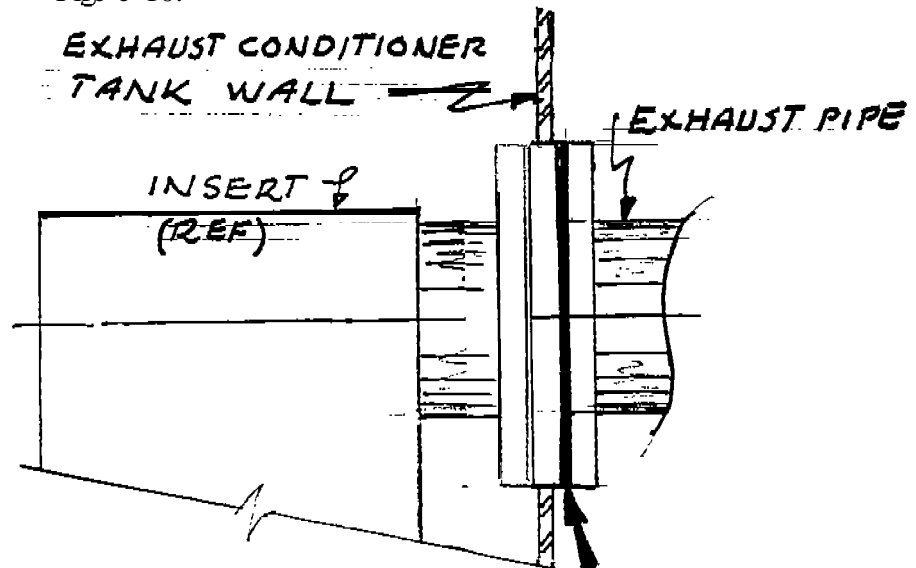

Figure 10. Gasket Between Exhaust Pipe and the Flange of the Exhaust Conditioner
- (WEEKLY) 17. () A copper or bronze gasket is installed between the flange of the exhaust pipe and the flange of the exhaust conditioner as shown in Figure 10.